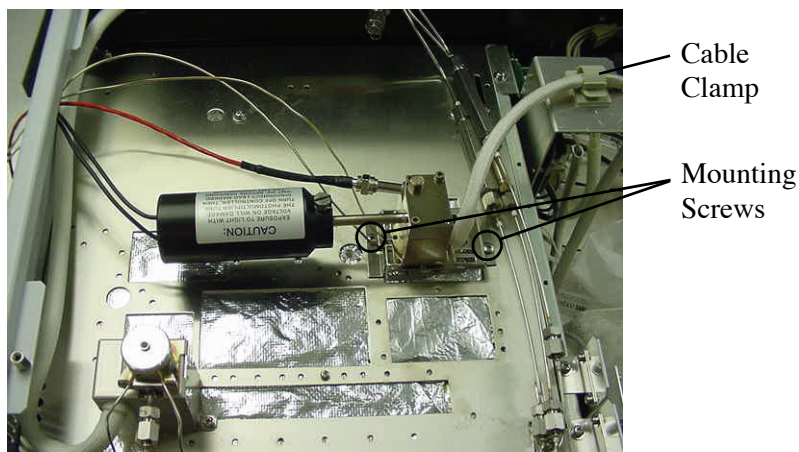

Figure 4.13. Mounting Screw Position
5. Attach the cable clamp (part number 321904, provided in startup kit) to the top of the GC bracket (as shown in Figure 4.13).
9. Attach the PFPD mounting plate to the GC top plate using the two screws provided in the startup kit (part number 169963). Use Figure 4.13 as a reference for the position of the mounting screws.